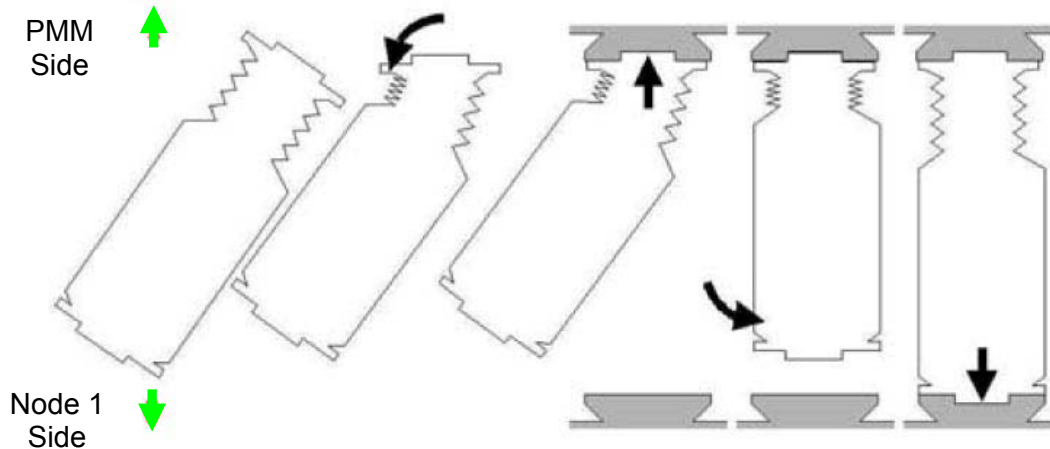

Figure 26.- Recommended Steps for IMV Jumper Installation.
- 11.3 Without IMV Jumper O-Rings (two), install (A4) IMV Jumper by using handling aid to compress jumper and sliding bellows end of jumper in first. Orient flat side of jumper toward the CBM Rings. Refer to Figures 26 to 28.